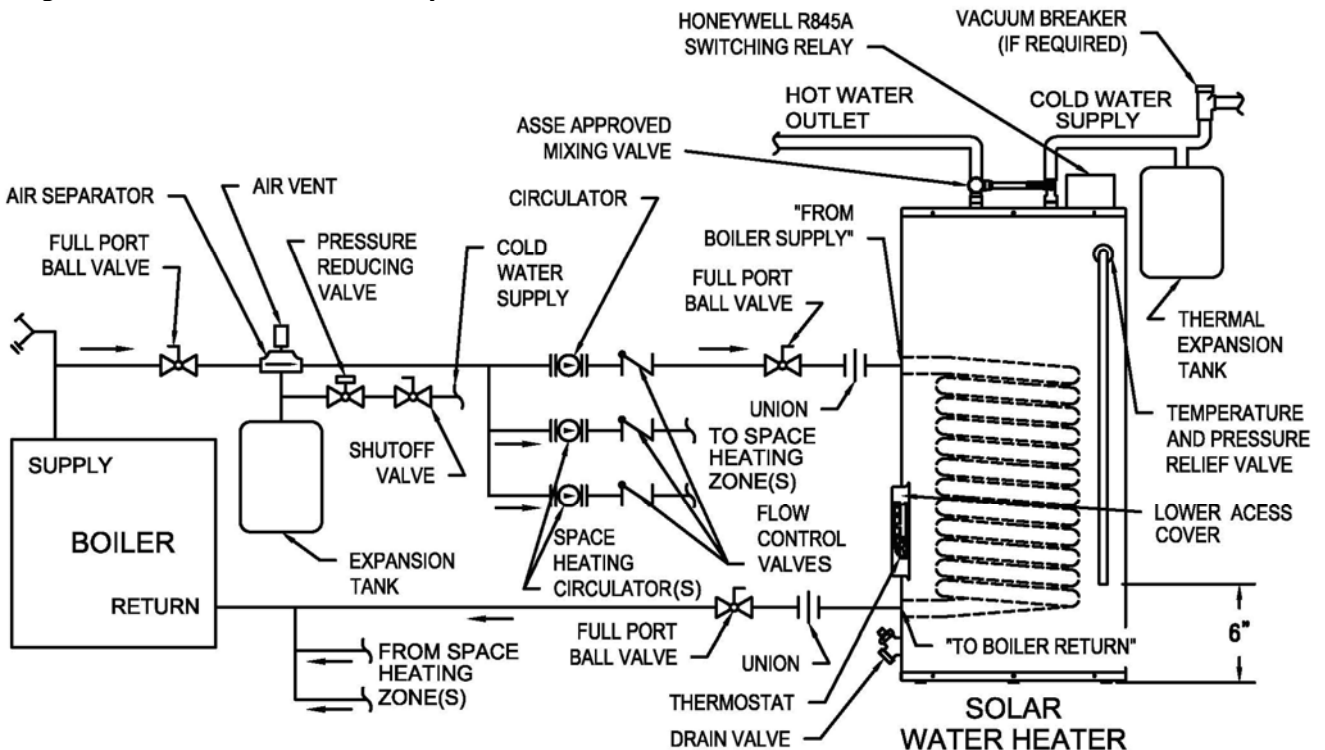

Figure 4 – Piping for Boiler Application (Winter/Summer)
SYSTEM LAYOUT FOR WINTER/SUMMER WATER HEATING SYSTEM (See Figure 4)
1. For boiler system connections, refer to Figure 4. The indirect-fired water heater connection labeled "FROM BOILER SUPPLY" should be piped to the boiler supply piping. Mount the circulator making sure the flow arrow points toward the water heater. The use of shut-off valves and unions are recommended for future service convenience. The use of an air separator and vent is recommended to eliminate air in the system. Pipe and fittings between the boiler and indirect-fired water heater must be 3/4" diameter or larger.